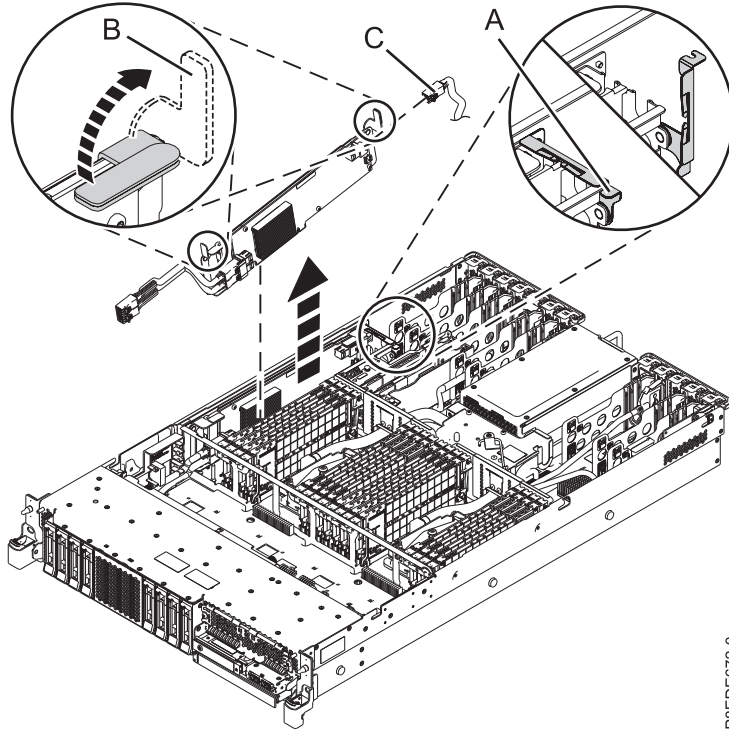

Figure 157. Removing the SAS RAID adapter
- a. Lift the cable retention bracket (A) in the direction shown. See Figure 157 on page 165.
- b. Lift the blue handles (B) in the direction shown.
- c. Using the blue handles on the SAS RAID adapter, lift the adapter up far enough to disconnect the rear SAS cable (C) from the SAS RAID adapter, as shown in Figure 157 on page 165.